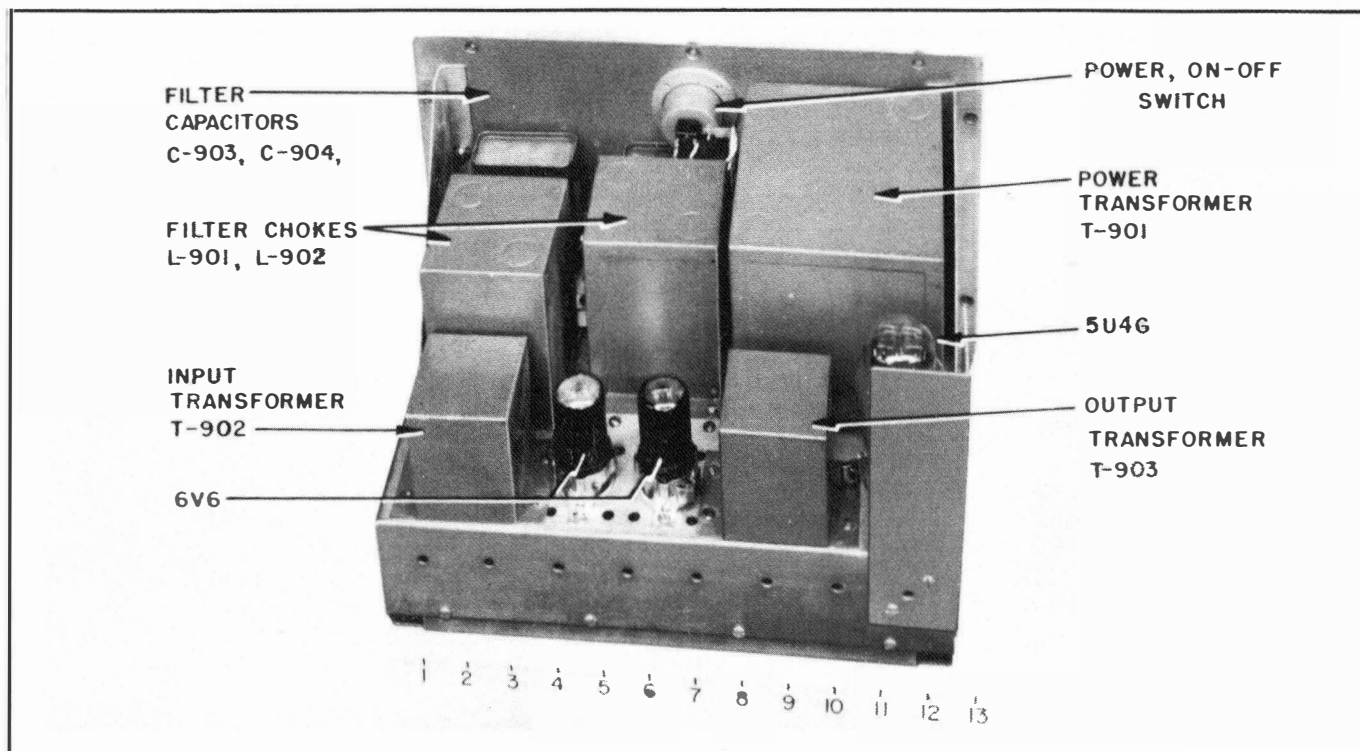

Figure 1-5. Navy Type PP-445/FRR Rectifier Power Amplifier Chassis. (Top View).
(1) TOP OF CHASSIS.—Above the chassis are located three electron tubes (V-901, V-902 and V-903), the power transformer (T-901), two filter chokes (L-901 and L-902), the audio input and audio output transformer (T-902 and T-903), and three filter capacitors (C-903, C-904 and C-905.) The only visible wiring passes up from the input power receptacle through fuse (F-902) to the "POWER, ON-OFF" switch (S-901) mounted on the rear of the central panel. (See Figure 1-5).